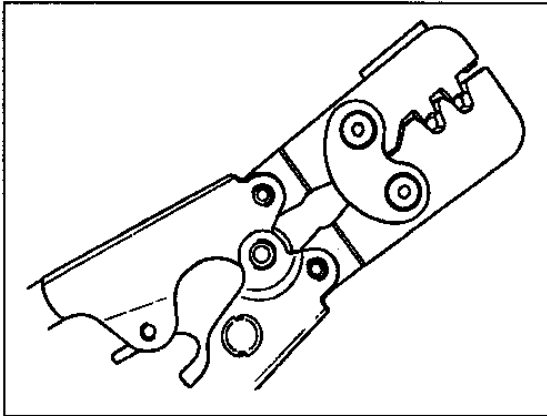

Figure 46 Standard Crimp Tool
5. Using standard crimp tool (12085270) or equivalent (Figure 46), crimp a new terminal onto the wire. The core crimp may be soldered with rosin core solder.